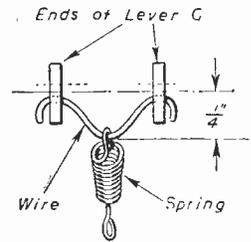

Fig. 18 (right).—Detail of method of mounting spring to lever G.
19. Another spring is now necessary between levers F and G. Reference to Fig. 9(c) will show that one end of this spring is hooked around the bottom 4 BA screw of part F. The other end is fastened to the two unoccupied "6 BA clear" holes of part G. A small piece of wire is bent into the shape shown in Fig. 18 to hold the spring. Fig. 18 shows the appearance looking from the end of part G. This piece of wire can quite conveniently be tinned copper wire.